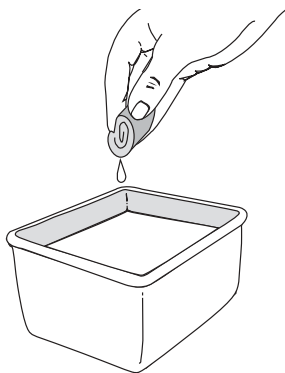

Fig. 9
4. Wash the filter in detergent and water. Rinse the filter thoroughly and allow it to dry (Fig. 9).